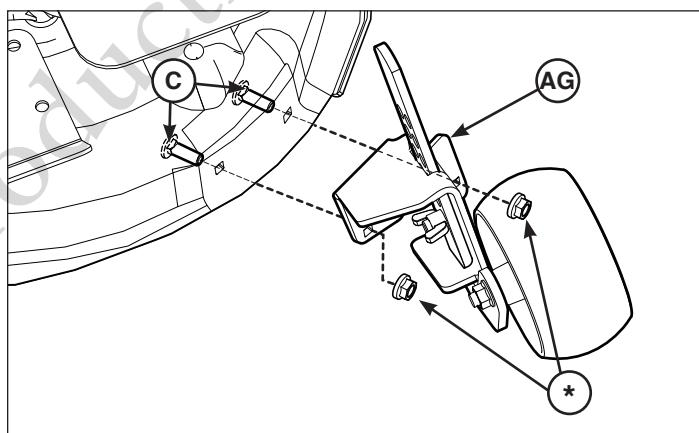

Figure 16
2. Assemble adjustable gage wheel assembly (**AG**, Figure 16) onto bolts (**C**). Secure with existing nuts (*).